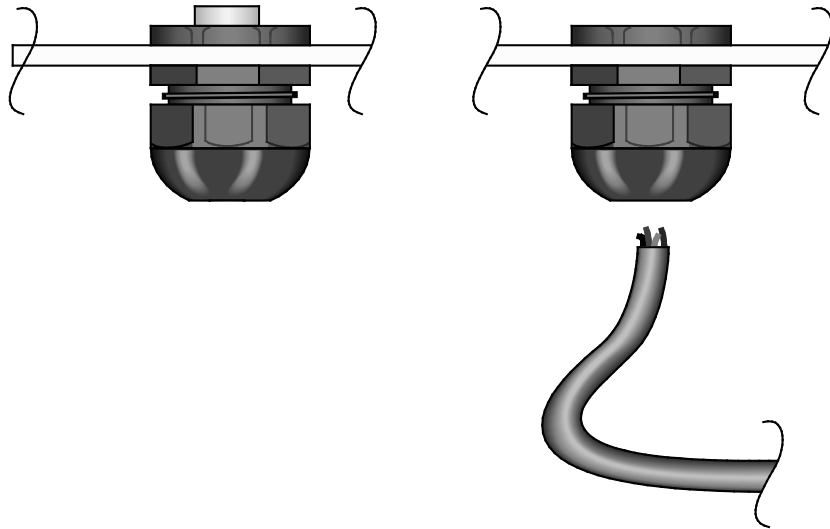

FIGURE 7-4. Cable inserted into entry seal
3. Route each sensor and peripheral lead through a unique entry seal (see FIGURE 7-4). Each entry seal ships with a plug that must be removed before inserting the sensor wire. To remove the plug, loosen the entry seal and remove the plug from inside the enclosure.
9. Rotate each entry seal so that the fitting clamps tightly against the sensor cable to provide a watertight seal (see FIGURE 7-4).